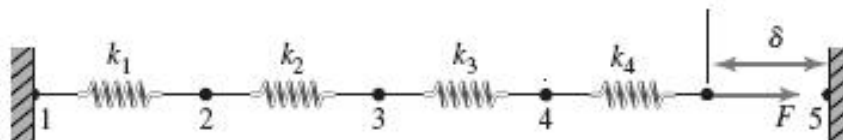

Figure P1.5
5. For the spring assemblage shown in **Figure P1.5**, obtain (a) the global stiffness matrix, (b) the displacements of nodes 2, 3 and 4, (c) the global nodal forces, and (d) the local external forces. Node 1 is fixed while node 5 is given a fixed known displacement $\delta = 20 \text{ mm}$. The spring constants are all equal to $k = 200 \text{ kN/m}$.